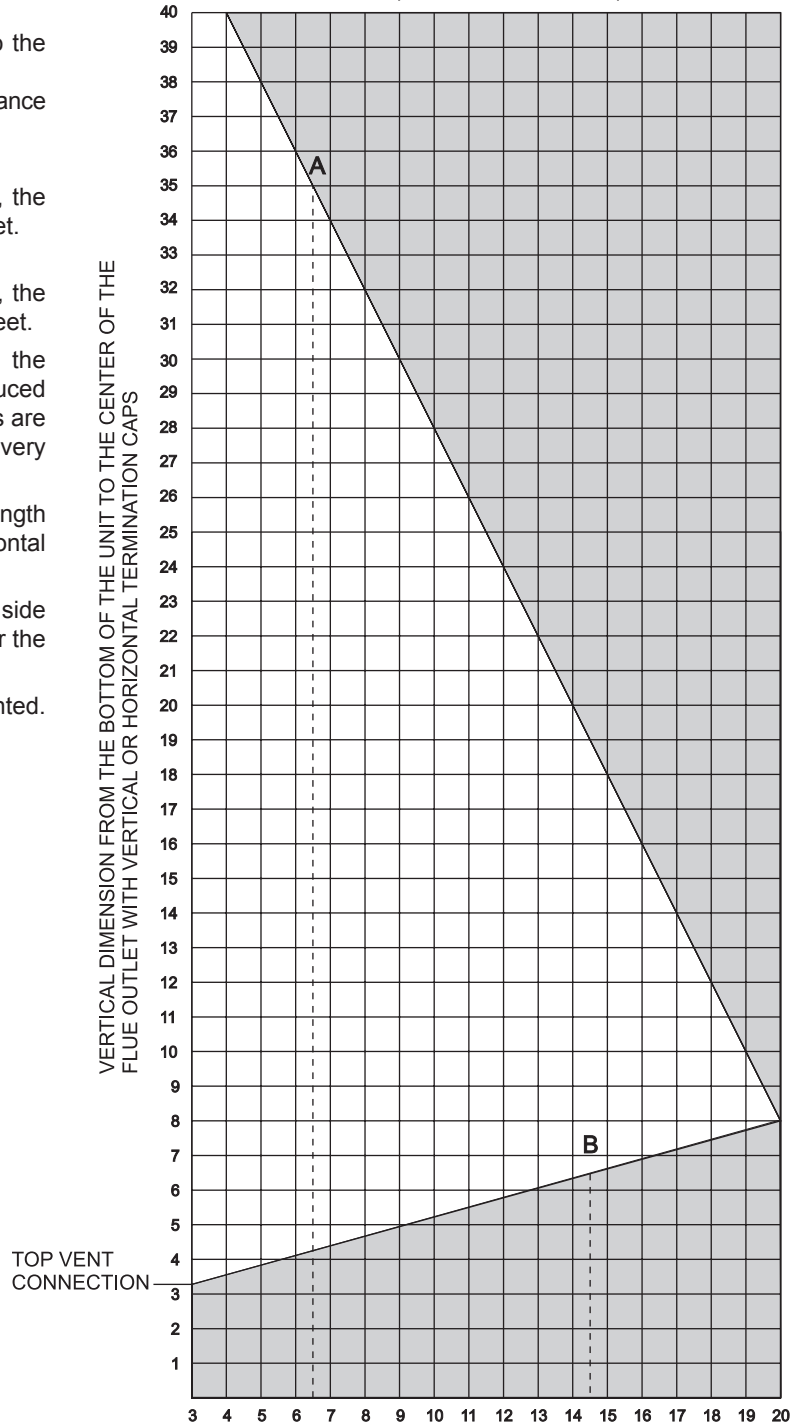

Figure 22
Attention: Refer to **Figure 22** for additional venting requirements.
**SEE FIGURE 22 ON PAGE 18 FOR PERMISSIBLE "H" AND "V" DIMENSIONS.**